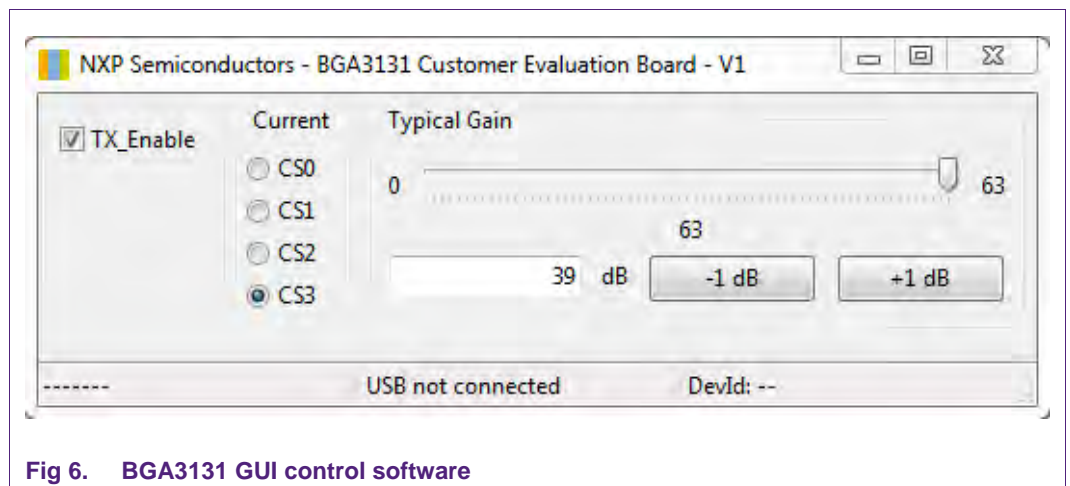

Fig 6. BGA3131 GUI control software
6. Now the GUI (shown in Fig 6) will appear to control the gain, current and the TX_Enable function of the BGA3131.